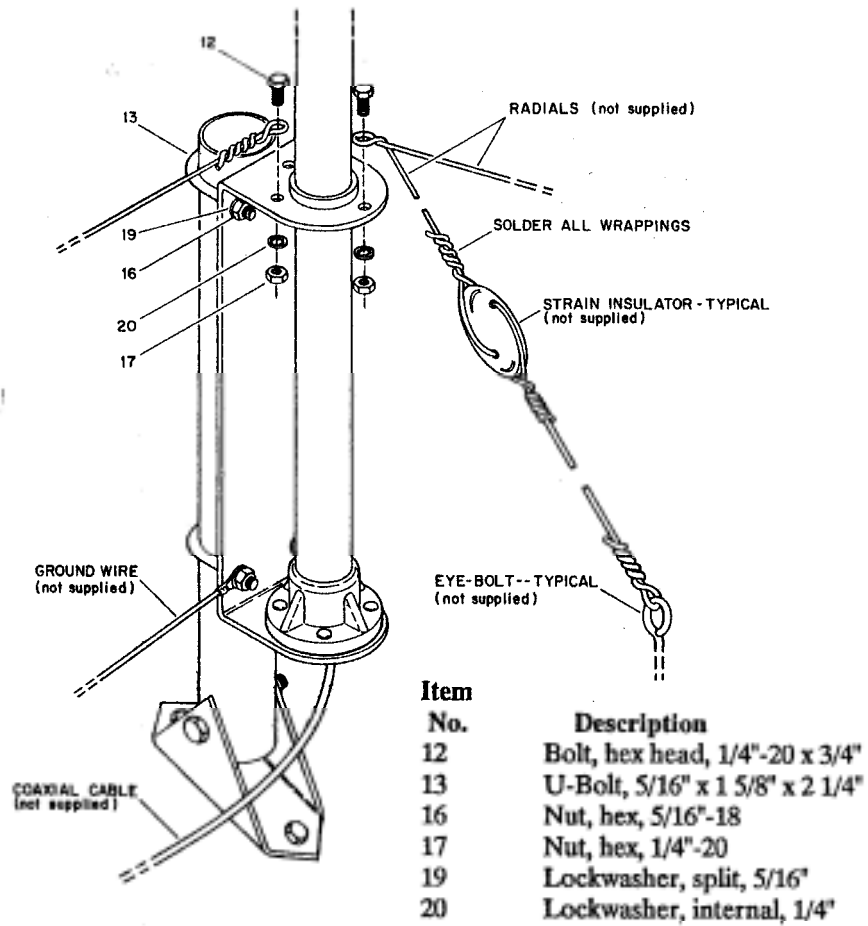
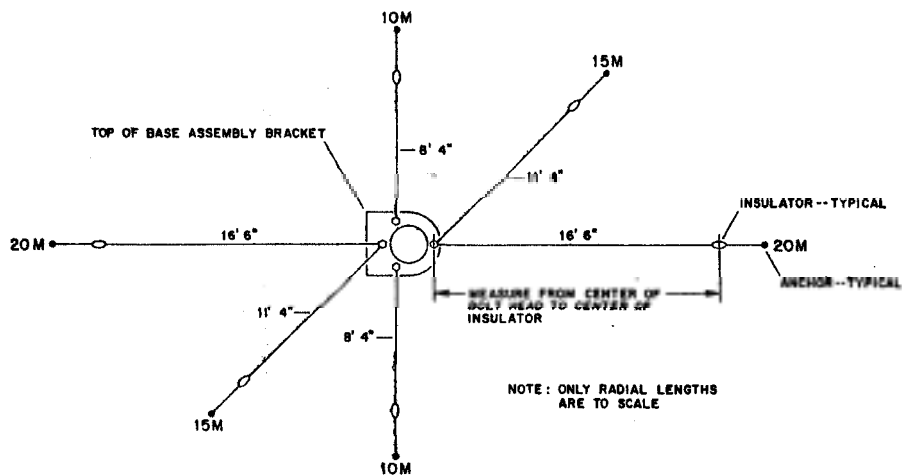

Figure 5
Figure 6
Select the four (4) 1/4"-20 x 3/4" screws, nuts and lockwashers (Items 12, 17 and 20) and install on the base assembly. If the antenna is to be ground mounted, tighten these screws securely. If the antenna is to be roof mounted, refer to Figure 5 before tightening these screws. *A radial system must be added for proper operation when this antenna is mounted on the roof.* This radial system can also act as the guying system. The radials should be the length shown in Figure 6 after the strain insulators are installed. If you prefer, you may obtain a radial system specifically designed for your 12AVQ-S by asking your local Hy-Gain dealer for the 14RMQ.